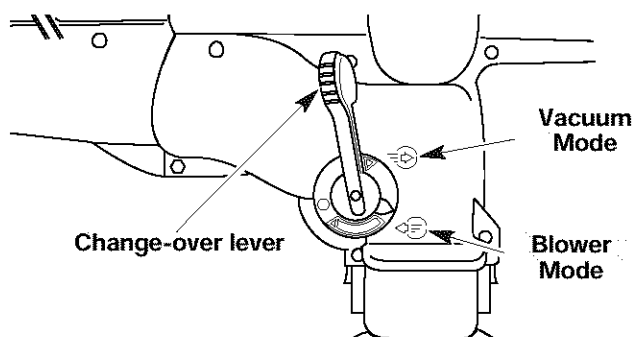

Fig. 13
2. Set the blower/vacuum mode change-over lever to the up position (Blower Mode) (Fig. 13).